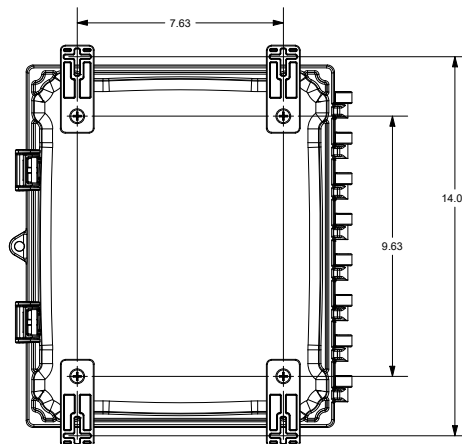

Figure 1.
The Current NX Energy Module hosts the energy dashboard. The NX Energy Module is housed in an enclosure where its pre-wired and assembled on a DIN rail and connected to a DIN rail power supply. (See Figure 1)
4. Wall mount the enclosure assembly using appropriate mounting screws (not included) according to the 4 mounting keyholes (See Figure 1). Note: An optional mounting foot with screws is provided for ease of wall mounting.